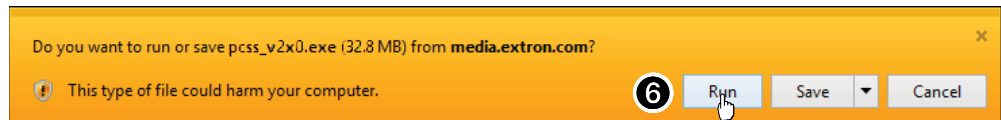

Figure 34. Download Warning and Confirmation
5. Click **Download** to copy the software or firmware to the computer. The download warns you about downloads and asks you to confirm it (see figure 34).
NOTE: Figure 34 may appear different or may not appear at all, depending on your web browser choice and its security settings.